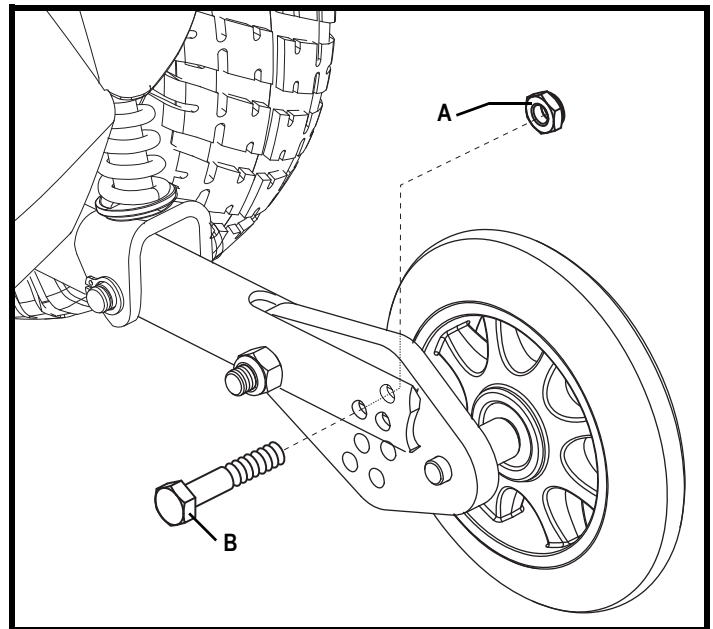

Figure 25. Anti-Tip Wheel Adjustment
1. Loosen nut A. See figure 25.